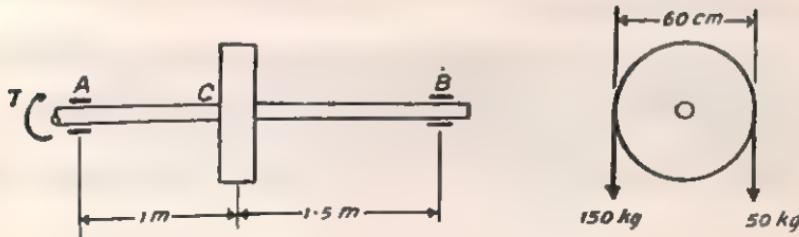

Fig. 1
12. A steel shaft, supported in bearings *A* and *B* at its ends, carries a pulley at *C* as shown in Fig. 1. Power is applied by a torque *T* at *A* and taken off through a belt overrunning the pulley, the tensions in the two branches of the belt being as shown. The allowable stresses for the shaft in tension and shear are 800 kg/cm² and 400 kg/cm². Find the diameter of the shaft.